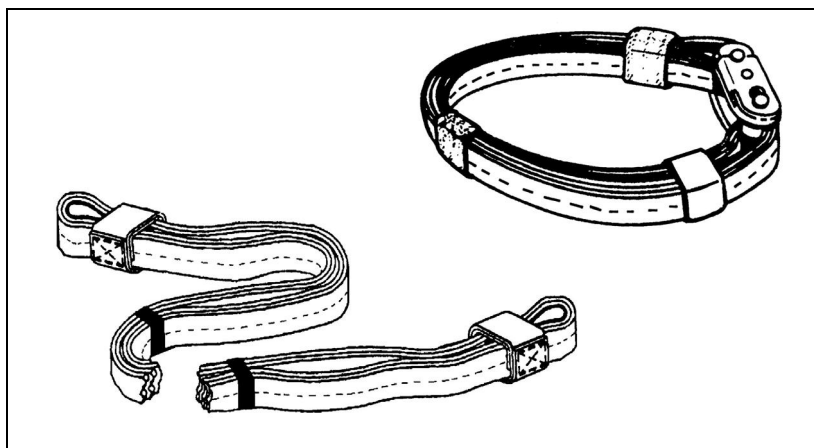

Figure 5-8. Three-foot apex (donut) ring.
(1) **Inspection.** Use the Type IV link assembly (NSN 1670-00-783-5988) to build a 3-foot donut or to connect one ADS to another (Figure 5-8). This link assembly has a rated capacity of 12,500 pounds. When inspecting the Type IV link assembly, look for the following deficiencies: